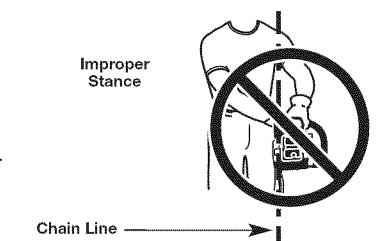

Fig. 14
- WARNING:** Do not operate the throttle control trigger with the left hand while holding the front handle with the right hand. Never allow any part of your body to be in the chain line while operating a saw (Fig. 14).